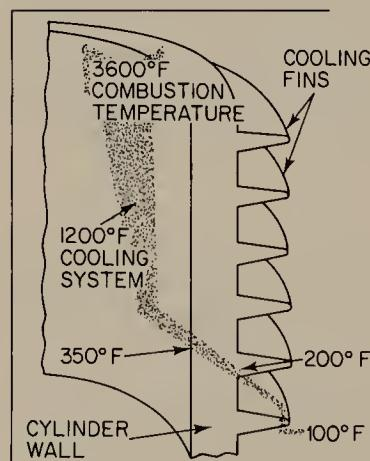

FIGURE 11.1 Heat-travel path from combustion gases to the lower cooling fins. Excess heat is lost through the cylinder wall fins.
11.3 Cleaning the Engine. Most small engines are air cooled and have cylinders with a series of cooling fins. These fins provide large surface areas from which heat can be radiated. The heat flows from the inside of the cylinder, through the cylinder metal, to the fins which radiate it to the outside air, as shown in Fig. 11.1. If these fins become dirty or covered with oil, grass clippings, and so on, the heat cannot get through. The accumulations act as a blanket to hold heat in the engine. As a result, the engine becomes overheated. The oil film on the engine parts becomes less effective, or actually fails, with the result that engine parts wear rapidly and engine life is shortened. It is essential, therefore, for long engine life, that the engine be cleaned before each use, if required.